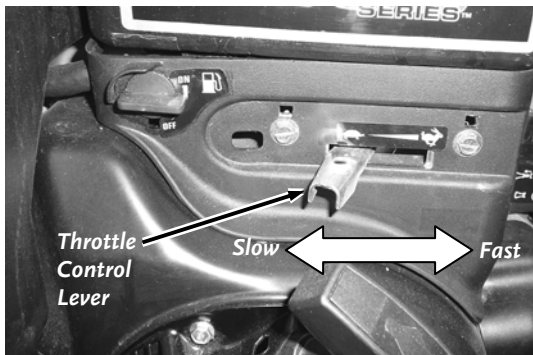

Figure 17
3. Move the Throttle Control Lever to about half way between Slow and Fast position (**Figure 17**).